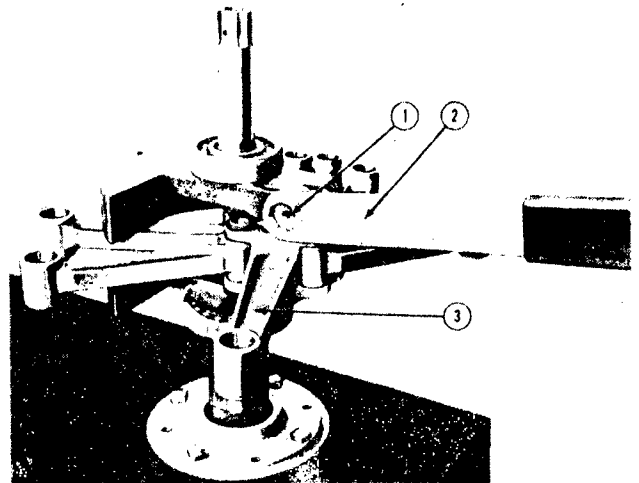

Figure 48—Removing Crankshaft Clamp Bolt
(3) Remove the cotter pin and using tool No. 3103, loosen and remove the crankshaft clamp bolt located on the rear cheek adjacent to the crank-throw journal. (See figure 48.) Insert the crankshaft rear cheek spreader plunger, tool No. 2344, in the hole where the clamp bolt was removed, and install the pin part No. 20314, in the plunger hole so as to lie across the gap in the crankshaft rear cheek. Screw the crankshaft clamp bolt in the rear cheek in reverse direction to its installing position, and tighten against the plunger until the crankshaft clamp spreads sufficiently to release its hold on the crank-throw journal. Separate the crankshaft front and rear halves, and re-